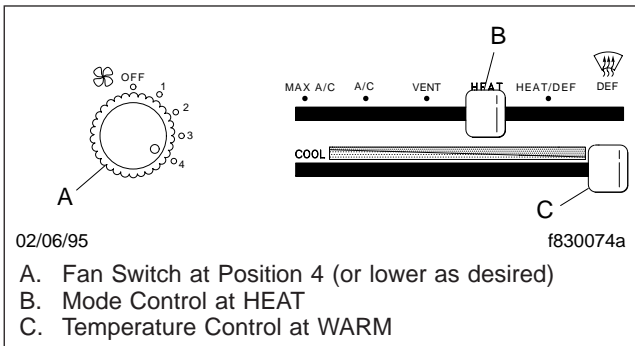

Fig. 4.7, Settings for Maximum Heat
1. With the engine at operating temperature, set the mode control to HEAT. See Fig. 4.7.